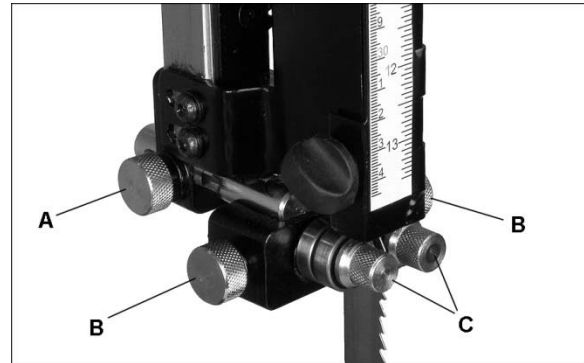

Figure 23
Refer to Figures 23 through 25.
4. Loosen lock knob (A, Figure 23).